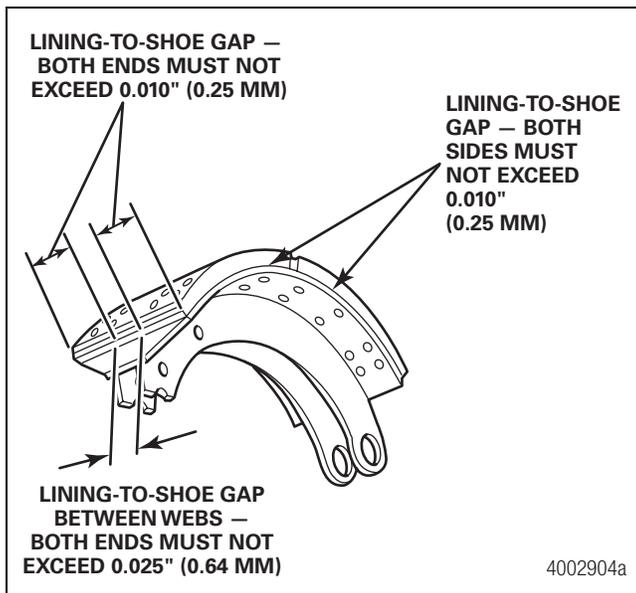

Figure 5.21
- The maximum acceptable lining-to-shoe gap along the sides and ends of the assembly is 0.010-inch (0.25 mm). The maximum acceptable lining-to-shoe gap between webs is 0.025-inch (0.64 mm). Figure 5.21.